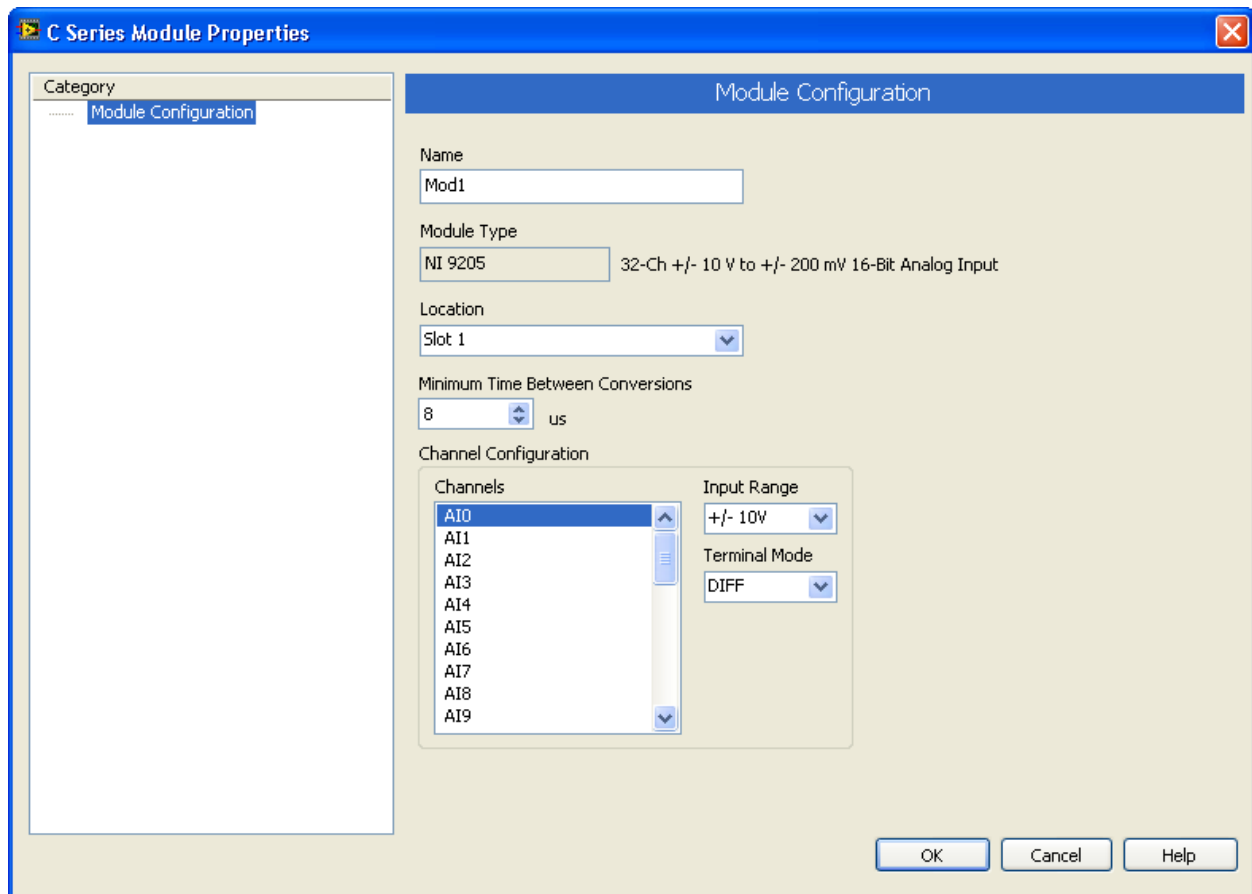
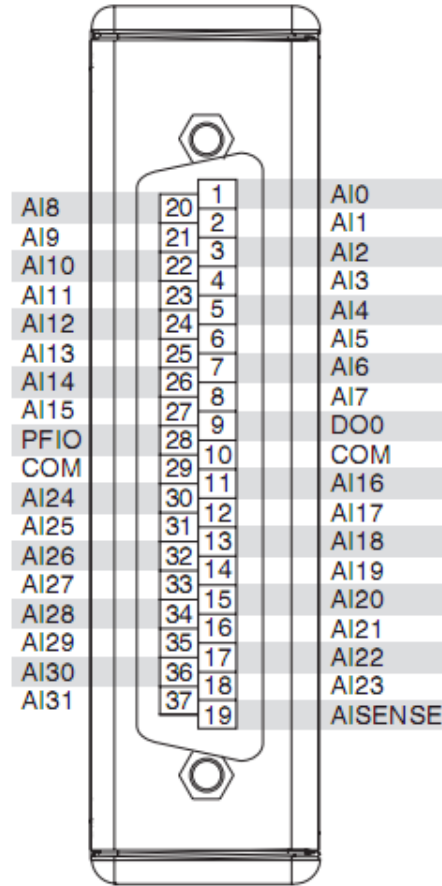

Figure 14 C Series Module Properties
Figure 16 – NI 9205 Terminal and Pin Assignments [4]
3. Make sure that terminal mode is set to DIFF. To do this, in the Project Explorer Window, right click on “Mod 1 (Slot 1, NI 9205)” and select Properties. Change Channel 0 (AI0) from RSE to DIFF, as shown in Figure 14. Figure 16 shows the NI 9205 Terminal and Pin Assignments, Figure 17 shows the NI 9205 Differential Pairs which shows that for Channel 0 AI0 and AI8 must be used, and Figure 18 shows how to connect a device to the NI 9205 using Differential Connections.